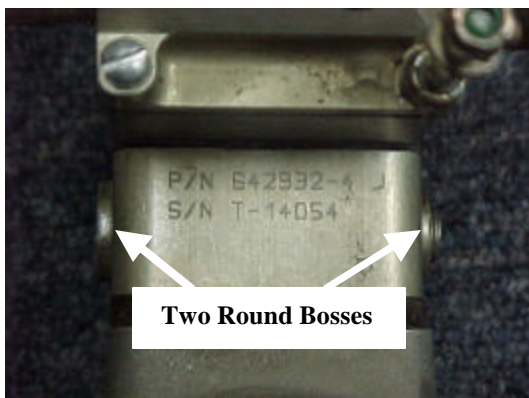

FIGURE 3
Affected engine driven fuel pump assemblies were manufactured utilizing basic fuel pumps P/N's 642932-1, 642932-2, 642932-3 and 642932-4. These basic fuel pumps may be identified by the presence of two (2) round bosses located on opposite sides of the basic fuel pump housing. Refer to Figure 3.